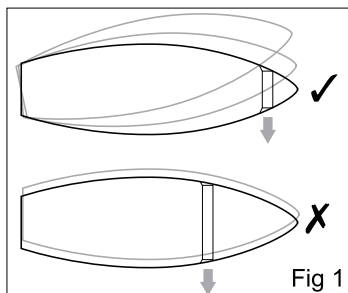

Fig 1
- As far forward as possible to maximise the lever effect. (Fig 1)